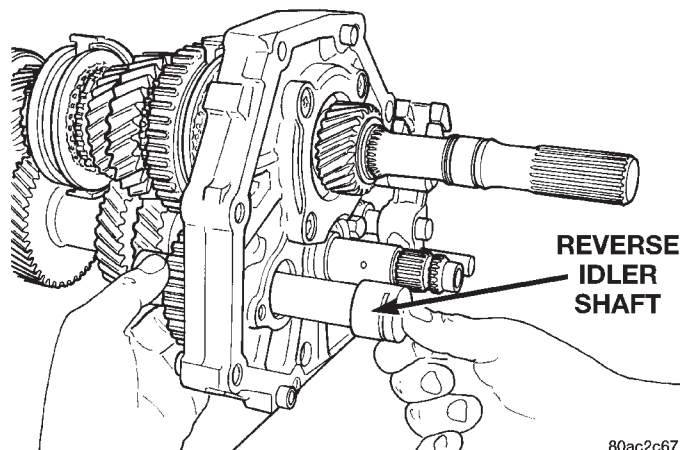

Fig. 57 Remove Reverse Idler Shaft
- (9) Remove bolt holding reverse idler gear shaft lock plate to the intermediate plate.
- (10) Remove reverse idler gear shaft and reverse idler gear assembly (Fig. 57).